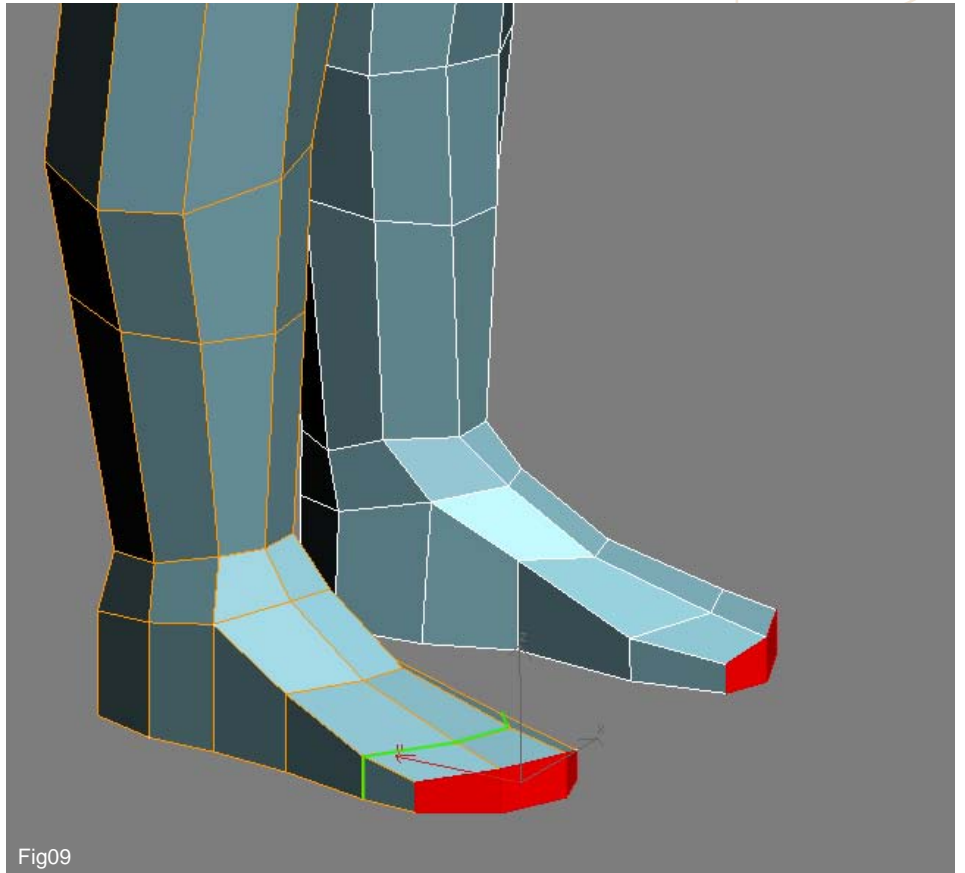

Fig09
9. Make a further extrusion to add the toes and in order to add a little more curvature add a further cut as seen in green in Fig09.